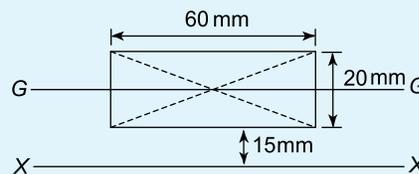

Figure 8.41
2. The second moment of area about axis GG of the rectangle shown in Figure 8.41 is:
3. The second moment of area about axis XX of the rectangle shown in Figure 8.41 is:
4. The radius of gyration about axis GG of the rectangle shown in Figure 8.41 is:
5. The radius of gyration about axis XX of the rectangle shown in Figure 8.41 is: